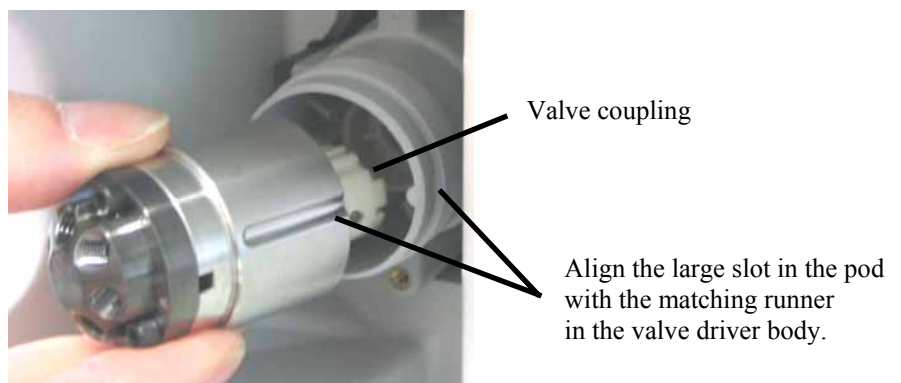

Fig. 49: Installing the pod
5. Install the new valve pod in the reverse order. Be sure to install the pod in the correct orientation: Align the large slot in the pod with the matching runner in the valve driver body (→ Fig. 49).